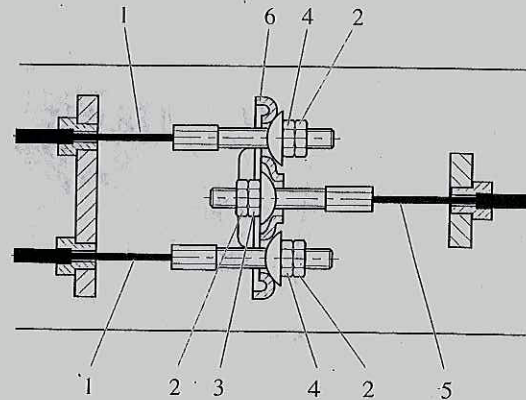

Fig. 5.7 Brake cable arrangement
Check the position of the equalizer (Fig. 5.7, 6) with the parking brake actuated.
Check all lock nuts (Fig. 5.7, 2).
1. With the towing eye pulled out in the outmost position and the hand brake lever in the downward position (Fig. 5.8), loosen the lock nuts (Fig. 5.7, 2). Turn adjusting nut and brake cable nuts (Fig. 5.7, 4) clockwise until there is no slack in the brake mechanism.
The equalizer (Fig. 5.7, 6) must remain perpendicular to main brake cable (Fig. 5.7, 5).
2. Apply the hand brake lever several times and repeat the adjustment. Tighten the nuts with their lock nuts (Fig. 5.7, 2). Remove the jack and the blocks.